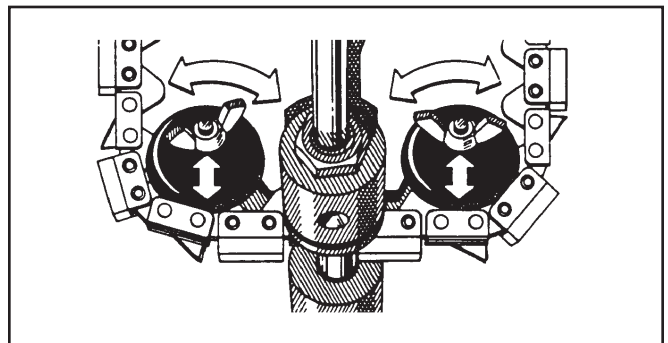

Figure 17. Positioning the Chain
2. Lay the chain across the plastic chain supports and then rotate the supports so the rivet head is centered between the take-up handle pocket and the spinner anvil (Figure 17).